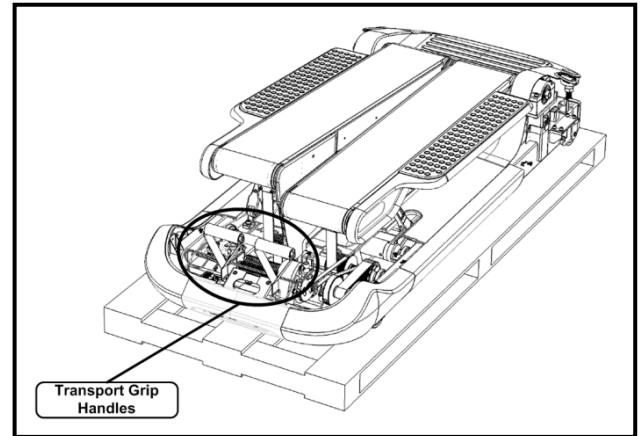

Fig. 4
4. To move the TreadClimber off the pallet; remove the alternator shroud to expose the transport grip handles. With two people and each gripping a handle; drive the base off the rear of the pallet (Fig. 4).